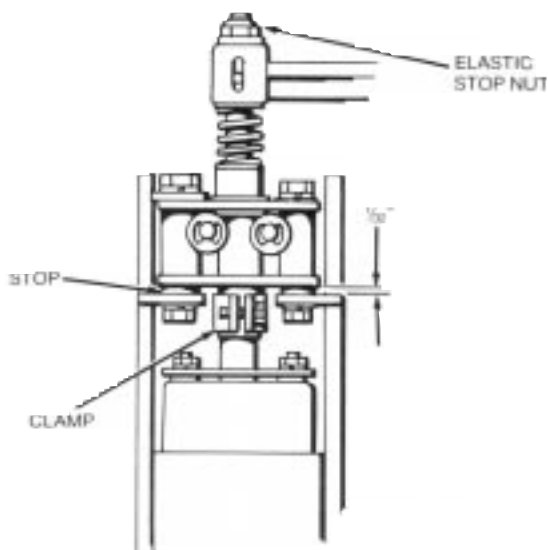

Figure 18.
13. Measure the gap between the movable contact clamps and the stop. The clamp should be no more than 0,8 mm (1/32 in.) from the stop, see Figure 18. Adjust elastic stop nuts, if necessary, to change the gap.